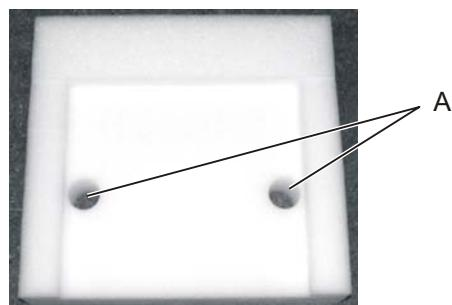

Figure 133: Shock absorbing buffers
The base pallet has two shock absorbing buffers (see Figure 133). The laser device feet are placed in the locating holes (A) so that the laser device is secured in position when the rigid packaging is closed.